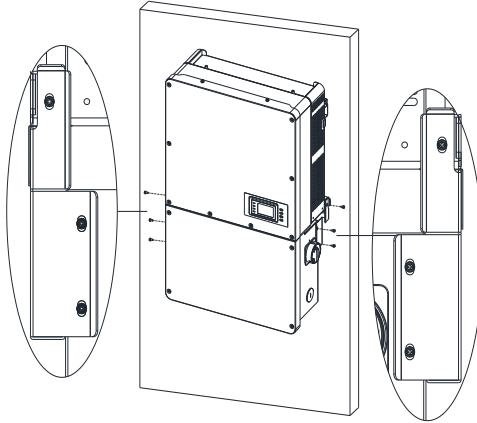

Figure 3-14 Secure the Main Enclosure and Wiring Box to the Bracket
Step 5 Attach the main enclosure and the wiring box to the mounting bracket with the M6x18 screws (6 pcs). (see Figure 3-14). Tool required: No.3 Phillips head screwdriver, torque value of 4N.m (35.4in-lbs)